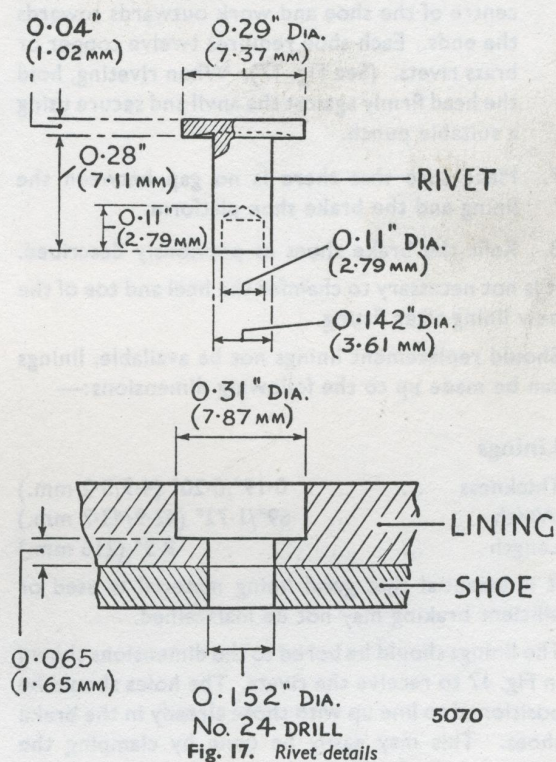

Fig. 17. Rivet details
6. Place the new lining on the shoe, first ensuring that there is no foreign matter adhering to its underside, and line up the ends with the marks previously scribed. Mount a rivet dolly in the vice. Fit the rivets in pairs to line up with the holes in the brake shoe platforms. Start at the centre of the shoe and work outwards towards the ends. Each shoe requires twelve copper or brass rivets. (See Fig. 17). When riveting, hold the head firmly against the anvil and secure using a suitable punch.
The linings should be bored to the dimensions shown in Fig. 17 to receive the rivets. The holes should be positioned to line up with those already in the brake shoes. This may easily be done by clamping the linings to the brake shoes and using the shoes as templates. (See Fig. 7).